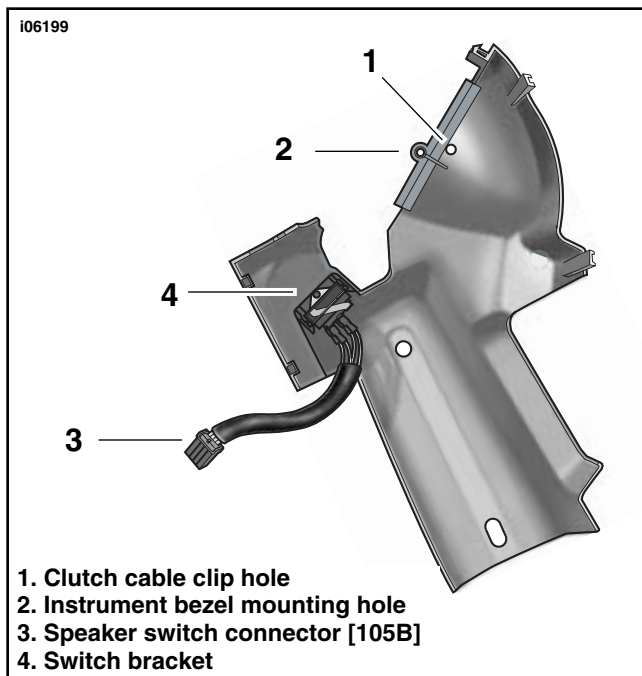

Figure 3. Kit Nacelle (LH) (Part No. 67922-98D)
7. See Figure 3. Remove the ignition switch knob (2) by inserting the ignition key switch and turning it to UNLOCK position. Leaving key installed, rotate the knob to ACCESS. Depressing the release button (1) at bottom (left side) with a small screwdriver, push key down and turn an additional 60 degrees in counter-clockwise direction. Lift and remove knob.
8. Using a 7/8 inch wrench on flats, loosen nut (3) and remove from threaded post of ignition switch housing. Remove collar (4) and spacer (5).
6. See Figure 3. Remove the ignition switch knob (2) by inserting the ignition key switch and turning it to UNLOCK position. Leaving key installed, rotate the knob to ACCESS. Depressing the release button (1) at bottom (left side) with a small screwdriver, push key down and turn an additional 60 degrees in counter-clockwise direction. Lift and remove knob.
7. Using a 7/8 inch wrench on flats, loosen nut (3) and remove from threaded post of ignition switch housing. Remove collar (4) and spacer (5).